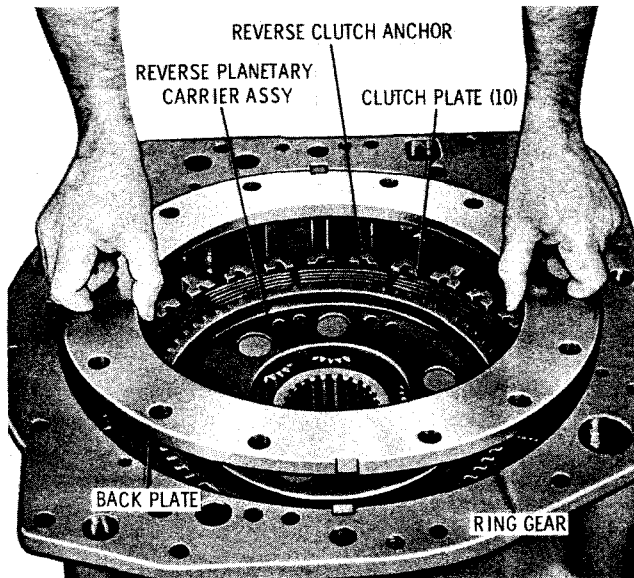

Fig. 7-20. Installing forward-and-reverse clutch back plate (5630 models)
(1) Install the reverse clutch anchor, broad flat side downward (fig. 7-20). Beginning with an external-splined clutch plate, and alternating with internal-splined plates, install two of each type plates.
(2) Install the reverse planetary ring gear, counterbored side upward (fig. 7-20). Beginning again with an external-splined clutch plate, and alternating with internal-splined plates, install three of each type plate. Note that the last plate installed is an internal-splined plate.
(3) Install the reverse planetary carrier assembly, open center upward (fig. 7-20). Install the forward-and-reverse clutch back plate.